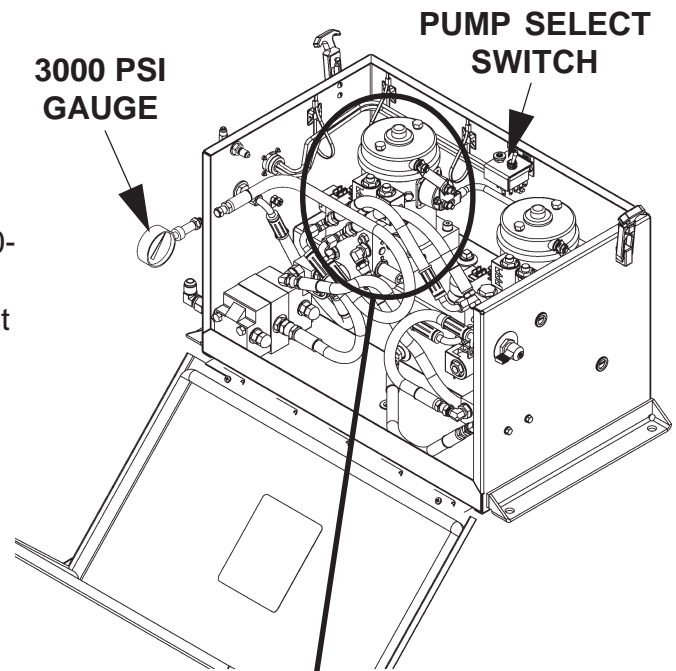

FIG. 2A
1. Open the Platform. Turn Closer Valve Adjustment (**FIG. 2B**) all the way clockwise on both pumps. Disconnect hose from Folding Port bulkhead fitting and connect 0-3000 PSI gauge to hose (**FIG. 2A**). Use Pump Select Switch (**FIG. 2A**) to select first Pump for adjustment.
3. Once Pump 1 is set, select Pump 2 with Pump Select Switch (**FIG. 2A**). Repeat **Steps 1 and 2** for Pump 2.
4. Disconnect 0-3000 PSI gauge from hose (**FIG. 2A**) and re-connect hose to Folding Port bulkhead fitting.